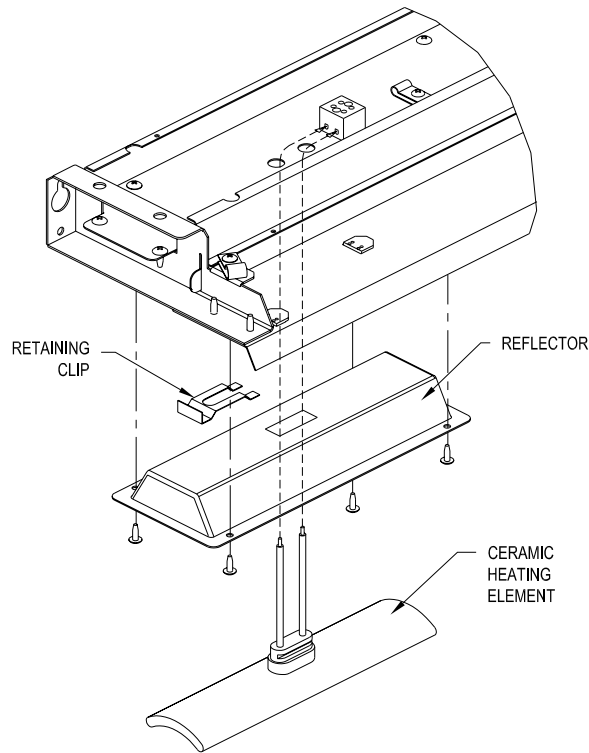

Figure 14. Canopy Heating Elements
3. Loosen terminal block screws retaining the heating element leads (see Figure 14) and remove the leads from the terminal block.
5. Remove the (4) screws retaining the reflector and lower the reflector / heating element assembly from the canopy (see Figure 14).